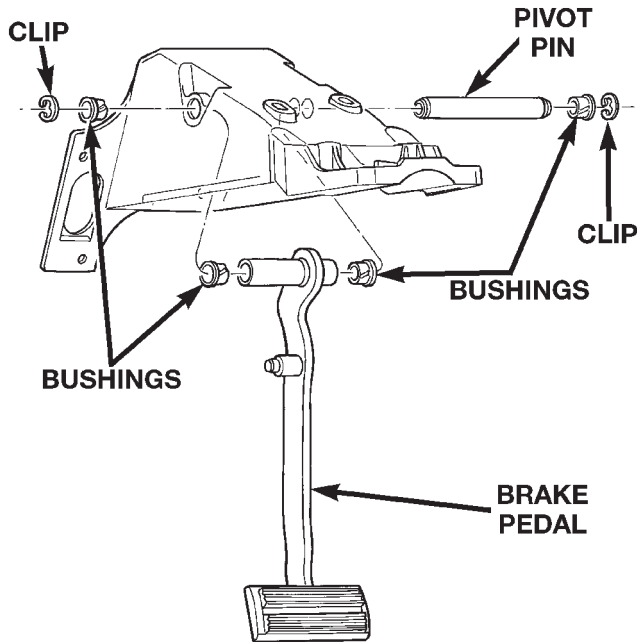

Fig. 15 Brake Pedal Mounting
- (1) Remove stop lamp switch.
- (2) Remove clip securing booster push rod to brake pedal (Fig. 15).
- (3) Remove pedal pivot pin C-clip and slide pin out of support bracket and pedal.
- (4) Remove pedal and bushings.